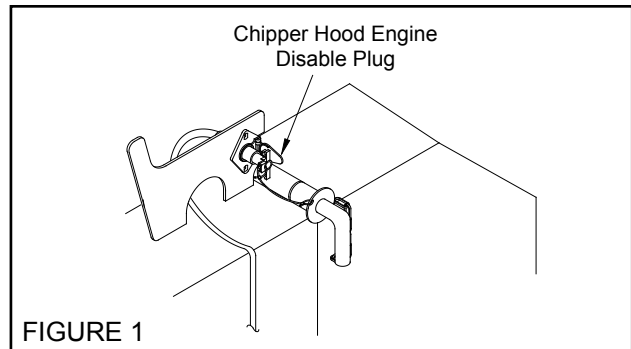
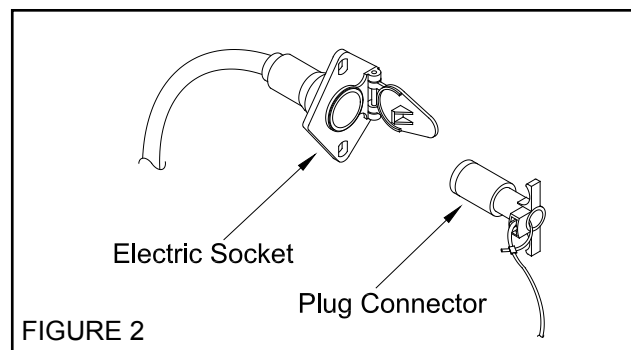
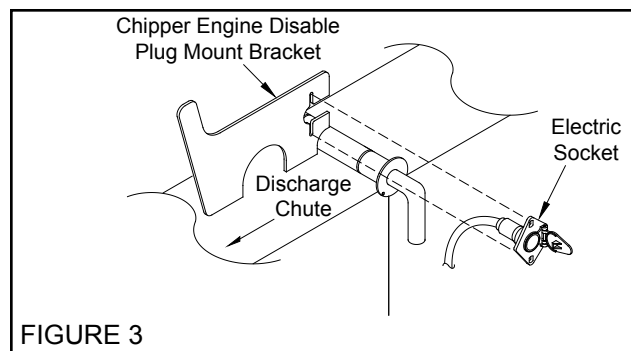

FIGURE 1
FIGURE 2
FIGURE 3
Install the cable to pull and feed from the bottom of the winch drum (See figure 2). Remove excess bolt length on cable bolts after cable is secured to the spool.
5. Make sure everyone is clear and then retract the clutch lock pin and then pull the clutch handle up to engage the winch clutch (See Figure 1). Make sure handle is locked in position.
The chipper hood engine disable plug is located on top of the chipper hood (see figure 1). The chipper engine disable plug is made up of two parts: an electric socket and a plug connector (see figure 2). The electric socket is bolted to the chipper engine disable plug mount bracket (see figure 3) and the plug connector is attached by a cable to the hood pin (see figure 4).
The spring lock is located on the side of the chipper hood. The top of the spring lock should be directly behind the hood pin washer when the hood pin is properly installed in place holding the chipper hood in the closed position (see figure 1).
With the chipper hood shut and hood pin in place the spring lock helps keep the hood pin from sliding out or from being removed if the chipper disc is turning. There is a shaft cam block installed on the chipper shaft which will not allow the spring lock to be pulled down if the chipper disc is turning (see figure 2). When the chipper disc is turning, if the spring lock was to be pulled down or recessed it would simply hit the shaft cam block bouncing the spring lock back into position not allowing for the removal of the hood pin.